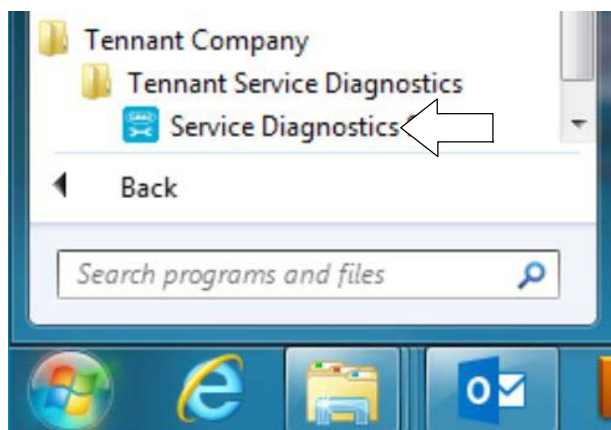

Fig. 13
2. Start the Service Software Application program "**Service Diagnostics...**" (Figure 4). Refer to Figure 13 for further details to access Software.
The software is pre-installed on your computer as shown below. The software application is titled “**Service Diagnostics**” (Figure 13).
7. After the service application software is installed on your computer, refer to figure 13 to access the program.
5. After the software is installed on your computer, refer to figure 13 to access the program.